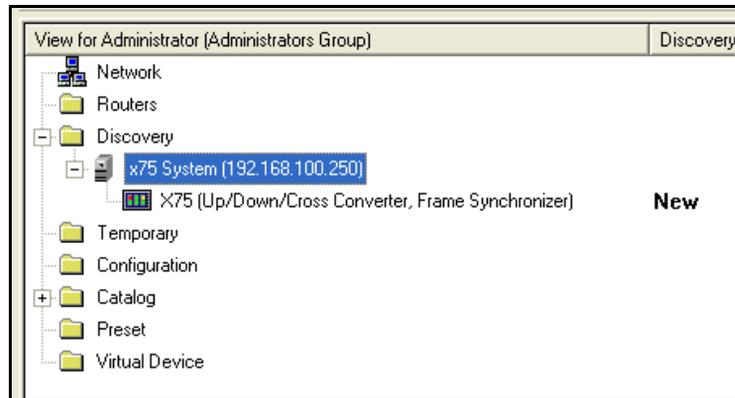

Figure 8-11. Selecting Your X85 or X75 Frame
1. In the Navigation pane, select your X85 or X75 from the discovered devices (see Figure 8-11 on page 188).